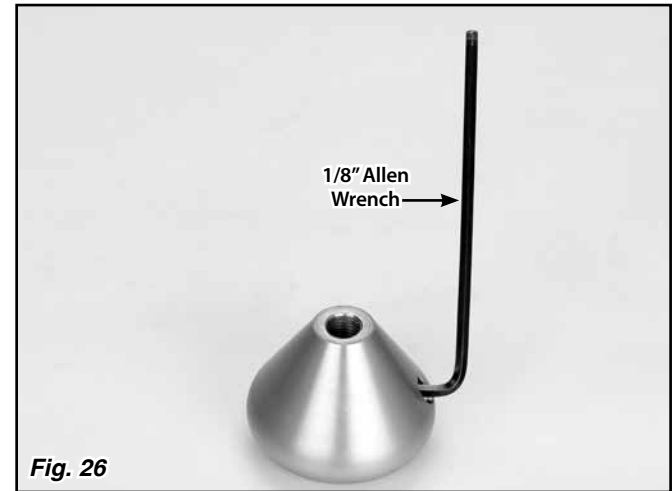

Fig. 26
Step 11: Turn the knob upside down. Use a 1/8" Allen wrench to loosen the set screw in the shifter knob just enough for the release button to slide out of the shifter knob. The release button will usually not just fall out. You will likely need to push the release button out with a screwdriver or the end of the Allen wrench. **Fig. 26**